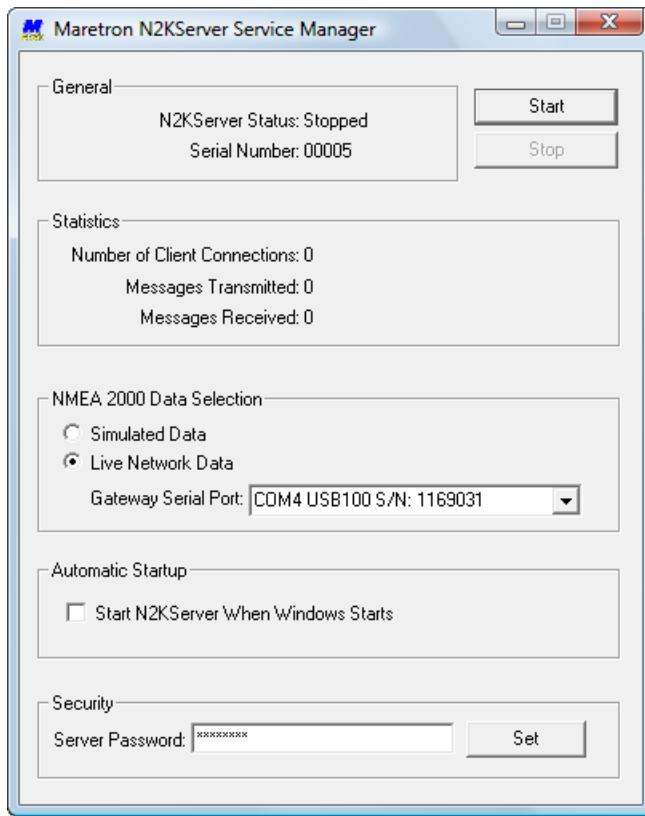

Figure 8 – N2KServer Service Manager Window
- a. Click anywhere inside the N2KView screen to display the screen tabs as shown in Figure 8 above.